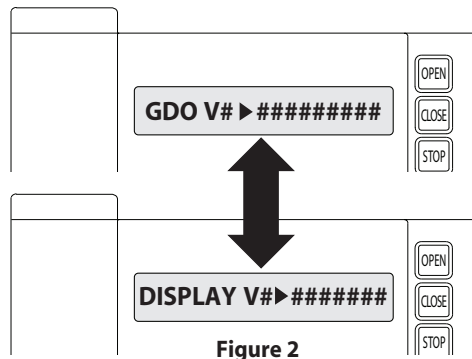

Figure 2
- 2) Press SCROLL  (up or down) until display reads "GDO V# > #####." **Figure 2**. This display will cycle between the version number of the current GDO firmware and the current Display Firmware.